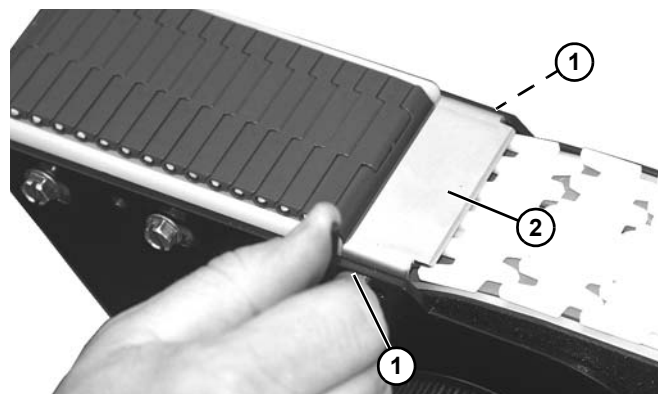

Figure 159
6. Remove two socket head screws (**Figure 159, item 1**) and pinch guard (**Figure 159, item 2**).